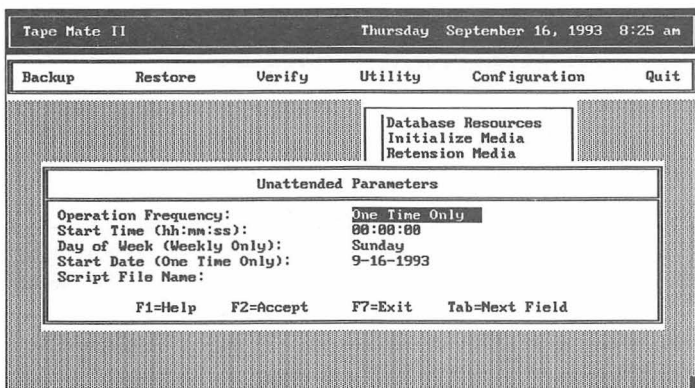

Figure 46 Unattended Parameters Dialog Box
- 2 Select **Unattended Parameters**. The Unattended Parameters dialog box appears, as shown in *Figure 46*.